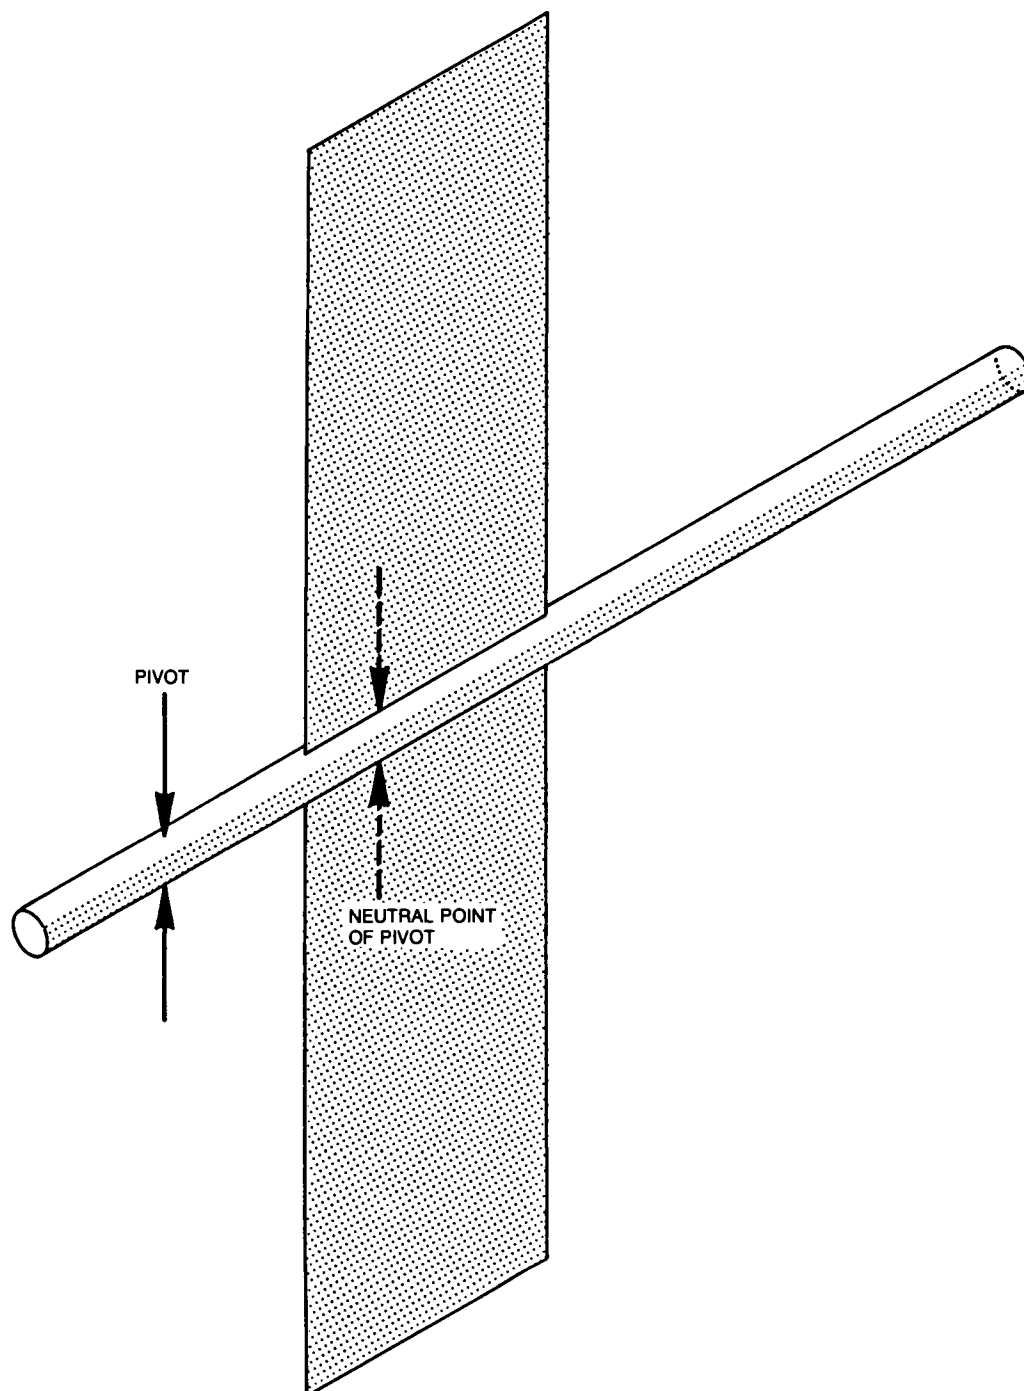

FIGURE 4
C.G. is rather like the pivot point of a weathervane. As we add nose weight to our glider, it would be like moving the pivot point of the weathervane forward. As we remove nose weight from our glider, it would be like moving the pivot point back. As shown in Figure 4, if the pivot point is ahead of the vane, the weathervane will point into the wind. As we move the pivot point back, a point is reached where the weathervane doesn't know which way to point, and the system goes unstable. This point of instability is called the **Neutral Point**.